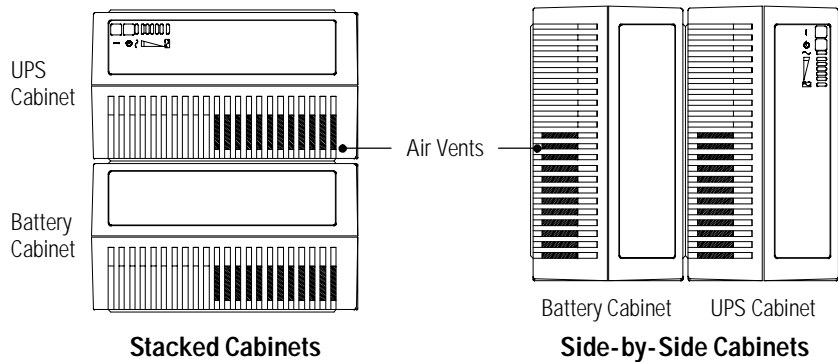

Figure 3. Cabinet Setup
- Place the battery cabinets underneath or beside the UPS as shown in Figure 3.